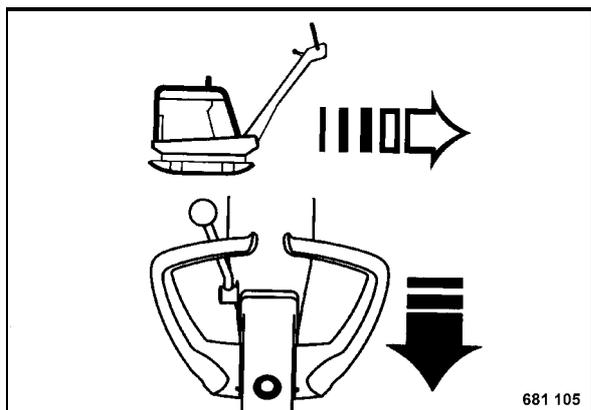

Fig. 43
- Move the travel lever (Fig. 43) backwards as required for the desired speed.